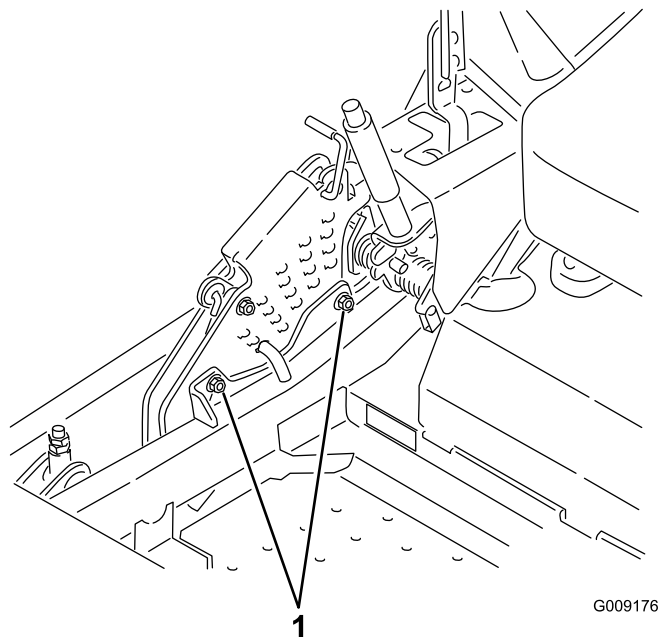

Figure 88
- 12. To adjust the single point system, loosen the two bolts at the bottom of the height of cut plate. Refer to Figure 88.
- Tighten the two bolts at the bottom of the height of cut plate (Figure 88). Torque to 27-33 ft-lb (37-45 N-m).